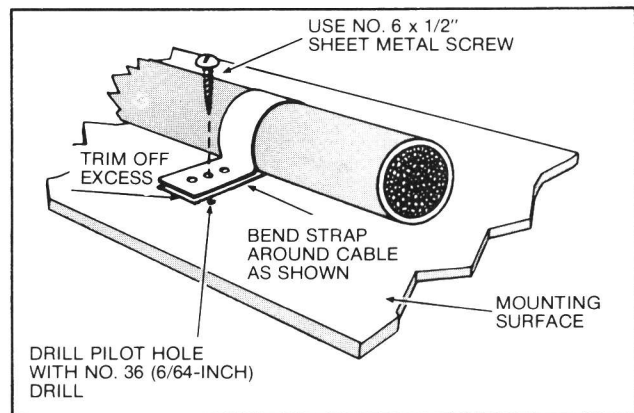

Figure 5. Installing Cable Straps
4. Use the 3-inch cable straps and No. 6 self-tapping screws provided in the Basic Mounting Hardware to secure the cables neatly in place (See Figure 5).